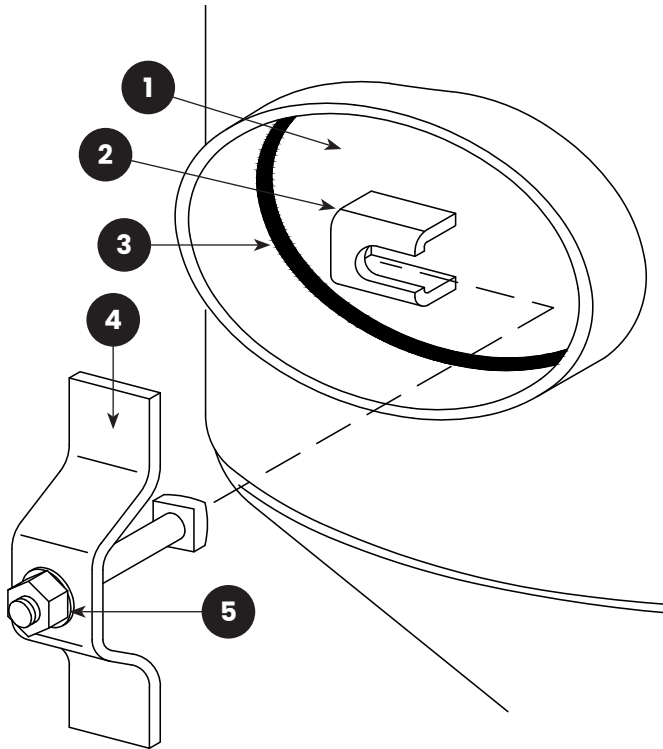

FIGURE 13: (1) Inspection Door Plate; (2) Bolt Bracket; (3) Door Gasket; (4) Inspection Door Clamp; (5) Clamp Unit
1. Loosen the inspection-door clamp nut enough to slide the clamp bolt from behind the bracket. Then remove the clamp, bolt, and nut, as an assembly, as shown in **Figure 13**.